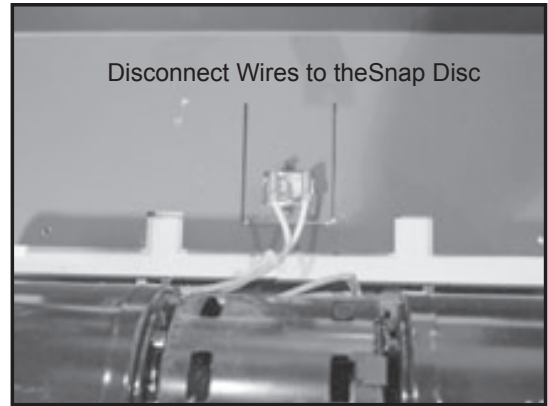

Figure 43.4
7. Gently rotate the shield up to expose the connections that are made to the snap disc. Disconnect the wires that attach to the snap disc. **Figure 43.4.**